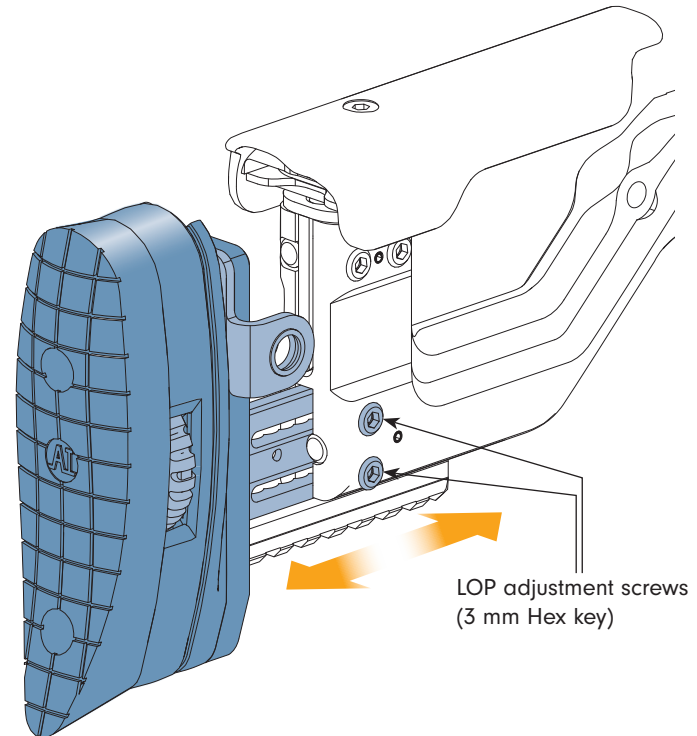

Fig 2-7
- Using a 3 mm hex key, slacken the two butt locking screws located on the lower rear chassis right-hand side (see Fig 2-7).